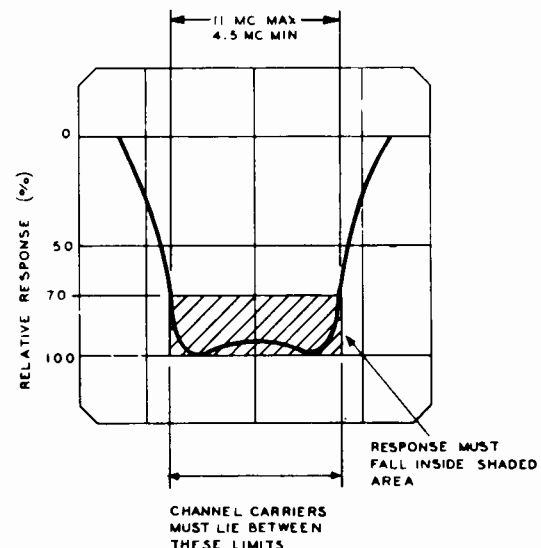

Figure 5. Television Tuner Response Curve, Showing Bandpass Limits
6. Establish channel limits (see figure 5) by using the marker (AM r-f) signal generator to produce marker pips on the response curve. (Set the marker generator first to 210 mc., then 216 mc.) The response curve should be reasonably flat between the limits.
8. Readjust TC502 and TC504 for a symmetrical response, centered about 213 mc. and falling within the specifications as shown in figure 5.